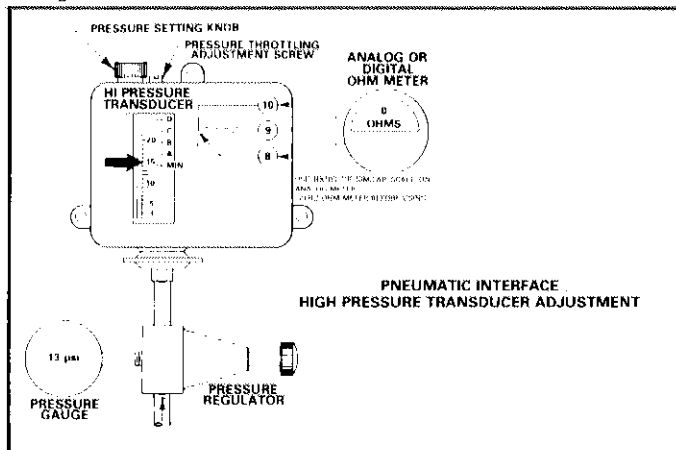

FIGURE 113
- 2 - Hook OHM meter to terminals 8 and 10. Set air pressure to 10 psi and then raise air pressure to 13 psi. Start pressure setting knob at 10 and raise to higher pressure setting until OHM meter reading approaches zero OHMs or to the point where there is no further change toward zero. Setting should be approximately 15. See Figure 113.